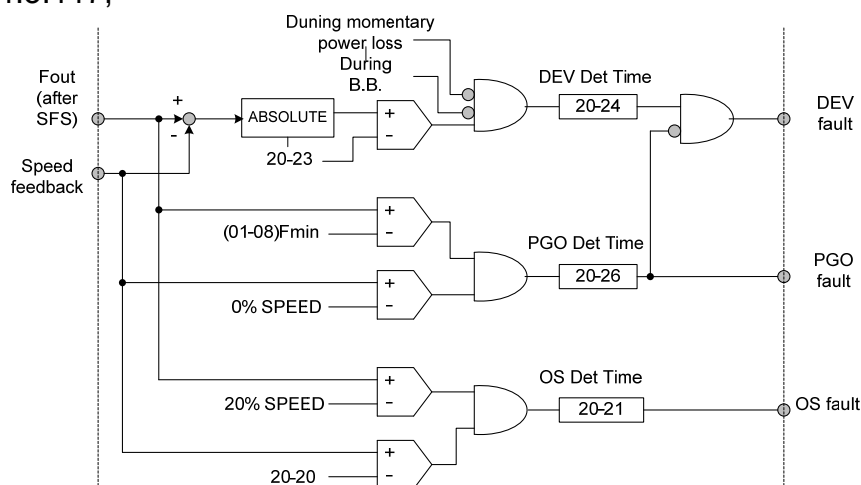

Figure 4.3.117 The block figure of PG feedback failure detection
(1) Over speed operation setting (20-19 to 20-21).
- . If the motor speed feedback exceeds the set value of 20-20 (over-speed detection level) and set time of (over speed detection delay time), a failure detection of overspeed (OS) will be detected.
- . For the block figure of PG feedback failure detection referring to the following figure 4.3.117.
(2) PG speed deviation setting (20-22 to 20-24).
- . For the block figure of PG feedback failure detection referring to the below figure 4.3.117.
(3) PG detection setting (20-25 to 20-26).
- . For the block figure of PG feedback failure detection, referring to the following figure 4.3.117,